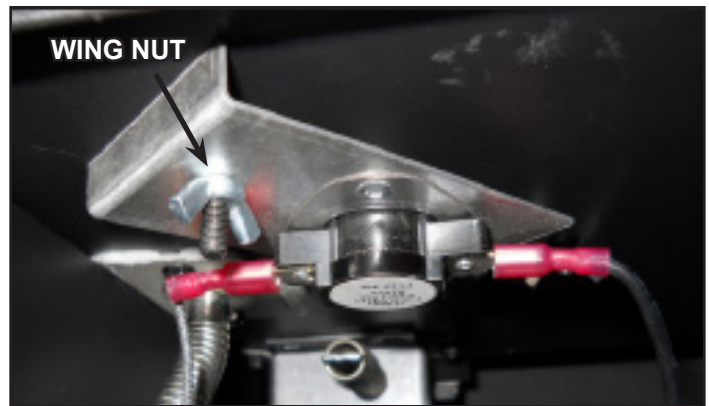

Figure 8.5 - Temperature Sensor Switch Installed
3. Slide temperature sensor switch/bracket assembly onto the 10-32 screw located on the underside of the appliance. Secure the bracket assembly with the wing nut provided. See Figure 8.5.